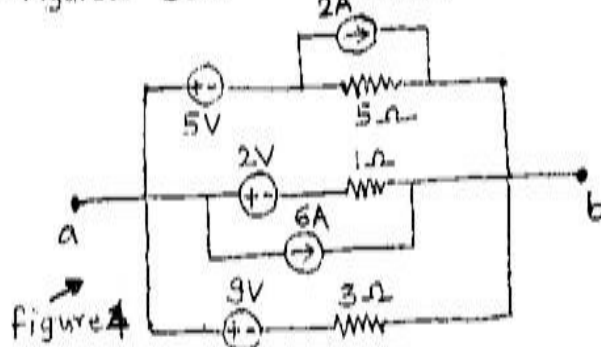

Figure 4
26. In the circuit a fig4 the switch is opened at $t=0$ find the values of V , dV/dt and d^2V/dt^2 at $t=0^+$